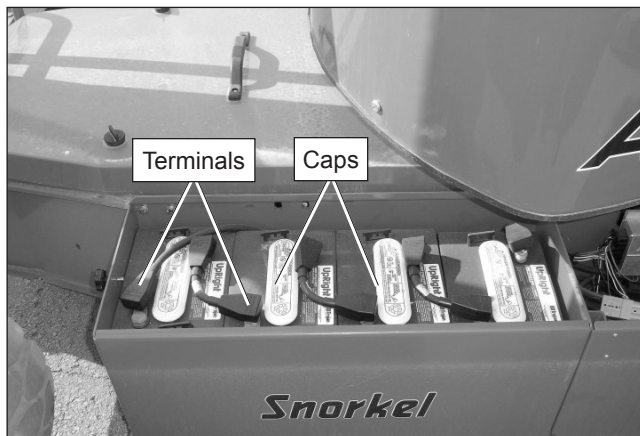

Figure 6.1 – Battery Tray
If necessary, clean the batteries, terminals, and cable ends (refer to Figure 6.1) with a wire brush or terminal cleaning tool.
2. Remove the cover on each side of the chassis to access the batteries. Remove the caps from each battery (refer to Figure 6.1).
8. Remove the cover on each side of the chassis to access the batteries. Remove the caps from each battery (refer to Figure 6.1).